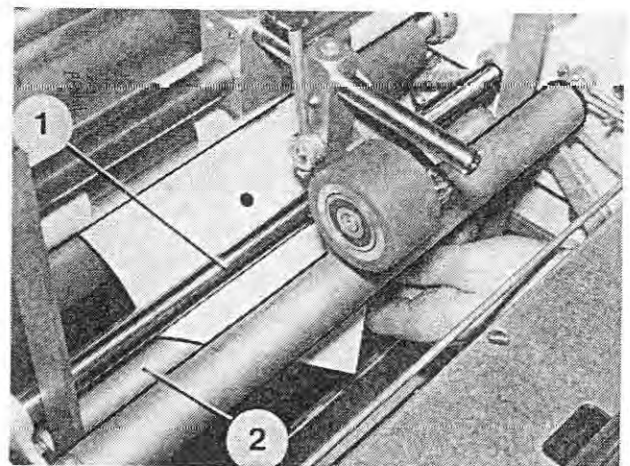

Fig. 101
15. Thread the wrapper below the roller pendulum (Figure 101/1) as well as over the reversing axle (Figure 101/2).